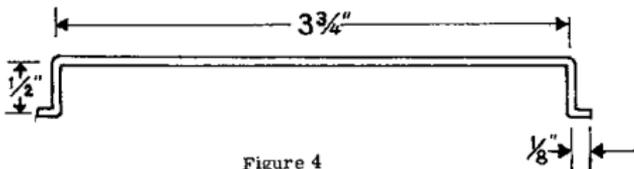

Figure 4
- (✓) Connect the leads from the bifilar coils to the solder lugs on the polystyrene bar; lead 1 to solder lug A, lead 2 to solder lug B, lead 3 to solder lug C, and lead 4 to solder lug D. Cut off the excessive length from each lead (NS).
- (✓) Repeat the above connections on the other bifilar coil, lead 5 to solder lug E, lead 6 to solder lug F, lead 7 to solder lug G, and lead 8 to solder lug H (NS).
- (✓) Cut a piece of #14 wire 4 3/4" in length. Bend and form the wire as shown in Figure 4. Connect one end to solder lug A (S-2) and the other end to solder lug E (S-2).
- (✓) Cut a piece of #14 wire 4 3/4" in length. Bend and form the wire as shown in Figure 4. Connect one end to solder lug C (S-2) and the other end to solder lug H (S-2).
- (7) Cut a piece of #14 wire 4 3/4' in length. Bend and form the wire as shown in Figure 4. Connect one end to solder lug C (S-2) and the other end to solder lug J (S-2).
- (8) Position solder lug J on the feed-through insulator so that it points away from the bottom of the chassis.
- (9) Cut a piece of #14 wire 1 1/2' in length. Form a small loop on one end and connect it to the wire going from solder lugs C and G. Connect the other end to solder lug J. Solder both connections.